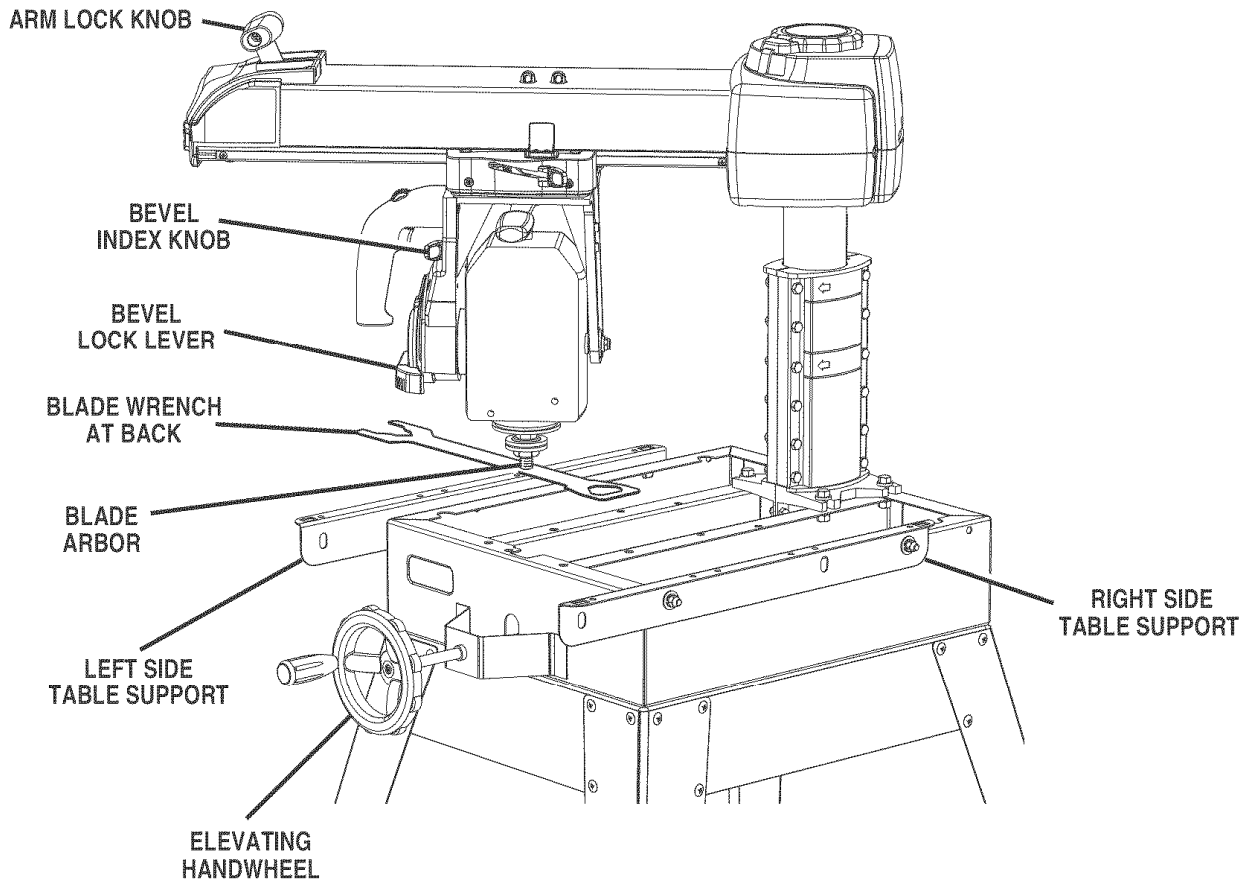

Fig. 22A
See Figures 22A - 22B.
- Release the arm lock knob to angle the arm. Begin by positioning the arbor shaft over the back of the highest table support. Normally this is the left side. See Figure 22A.